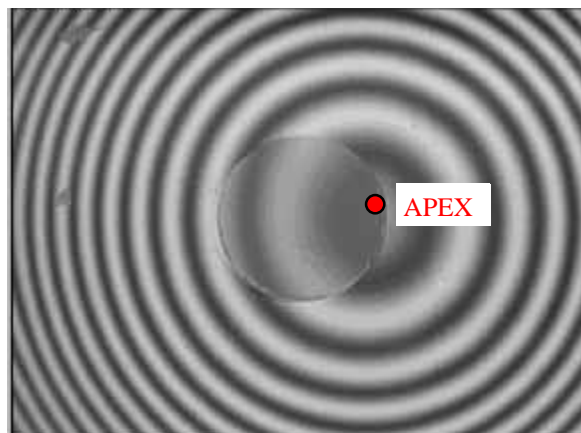

Figure 2 - Connector at 3 o'clock
3. Rotate the apex to the 3 o'clock position, and verify that the magnitude is still approximately the same. See figure 2.